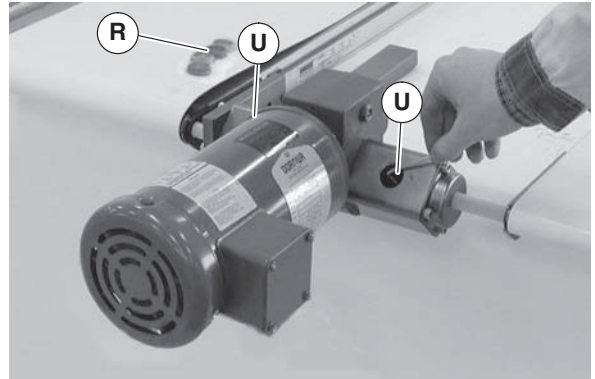

Figure 23
17. Tighten coupling hex shaft set screws (Figure 23, item U). Replace inspection plugs (R).